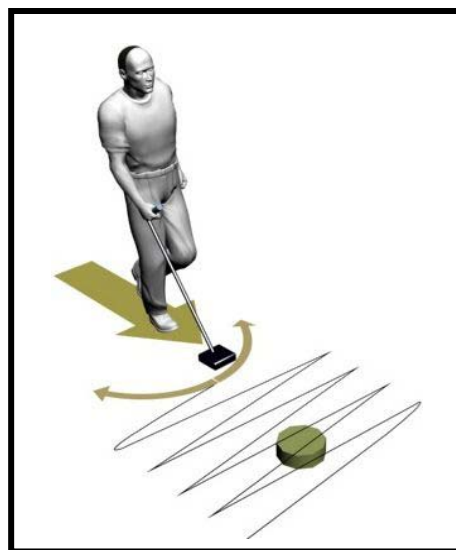
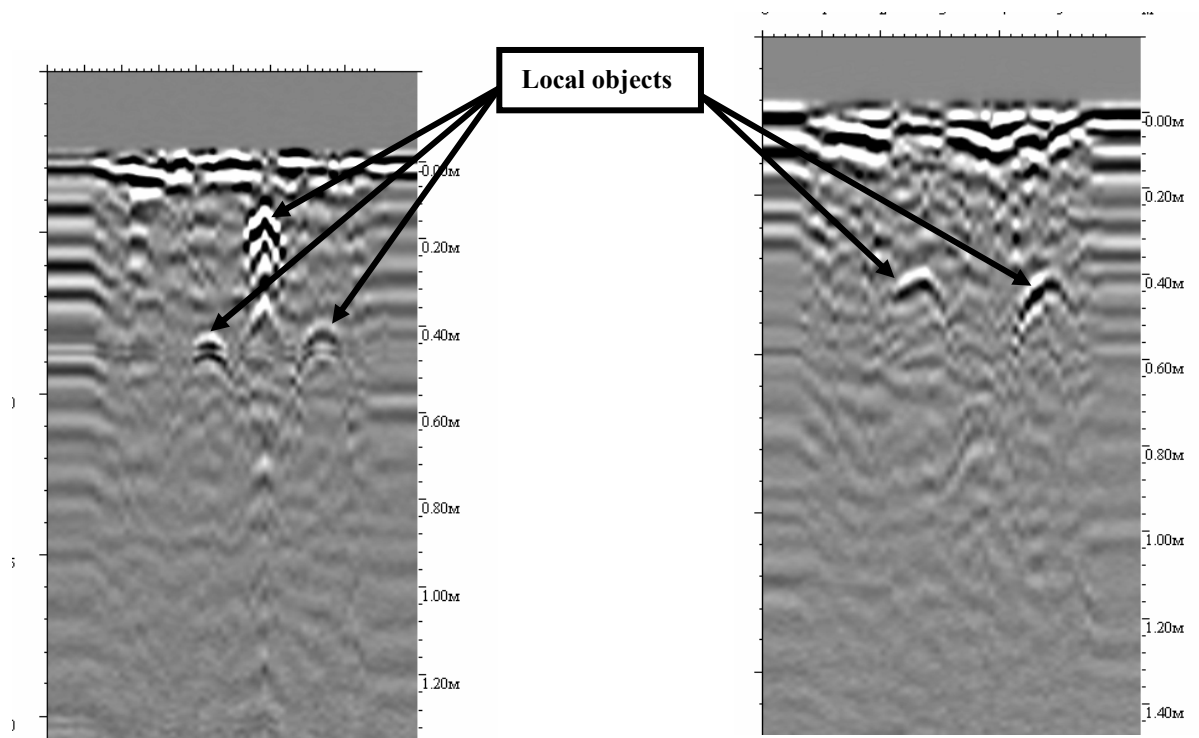

Figure 3.5.2. The moving trajectory of BAPP in searching of the dug objects
Figure 3.5.3 The examples of radogramm of detection objects
2. Smoothly move the antenna power supply unit on the planned trajectory. The search of the deep objects is possible to make at the mode, that is similar to the operation with metal detectors and mine detectors (figure 3.5.2). Antenna unit is possible to take of from a ground surface on a distance 5-10 sm. It does influence on the detection characteristics. The device in equal intervals will radiate impulses and accept signals from the moving antenna unit of the device, that are reflected from inhomogeneities of the scanning environment. The wave picture of the profile (radogramma) will be displayed on the BUOI screen while the device will be moving. The reflection of point objects is displayed on the radogramma as hyperbola (a vertex of hyperbole is to correspond to the nearest point of objects of the antenna unit), reflection from the objects and layers are represented in tended horizontal lines (figure 3.5.3).